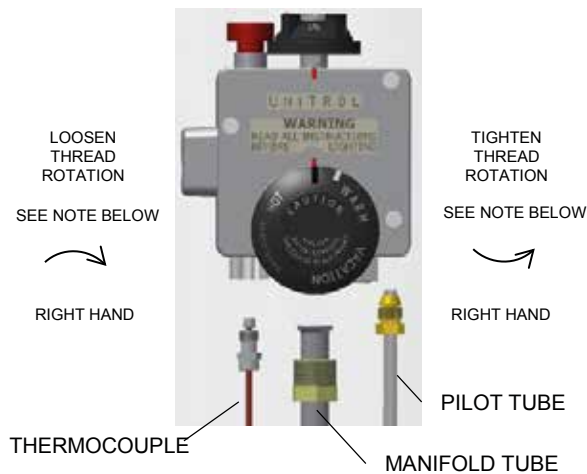

Figure 14
3. Disconnect the thermocouple, pilot tube and manifold tube at the thermostat (figure 14). Note that the propane (LP Gas) manifold has left hand thread rotation.
3. Reconnect the manifold tube and pilot tube. Do not cross thread these fittings (figure 14). Note that the propane (LP Gas) manifold has left hand thread rotation.
4. Reconnect the thermocouple. The thermocouple nut should be started and turned all the way in by hand. An additional one-quarter turn with a 3/8" open end wrench will be sufficient to set the lockwasher (figure 14). CAUTION: OVERTIGHTENING MAY DAMAGE THE THERMOCOUPLE OR THERMOSTAT.